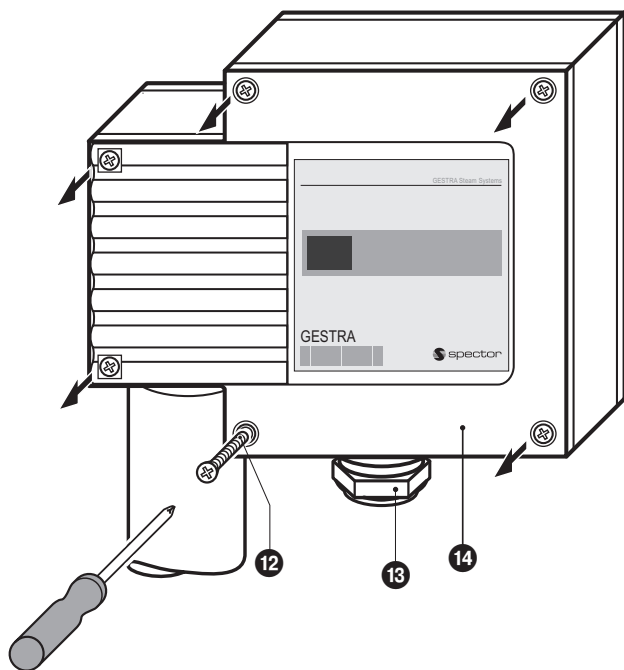

Fig. 15
1. Undo the screws **12** and take off the cover **14** of the terminal box. **Fig. 15**. The arrow on this cover points to the rating plate.
2. Remove the cable lugs from the pins. **Fig. 15**
1. Undo the screws 12 and take off the cover 14 of the terminal box. **Figs. 15, 16**